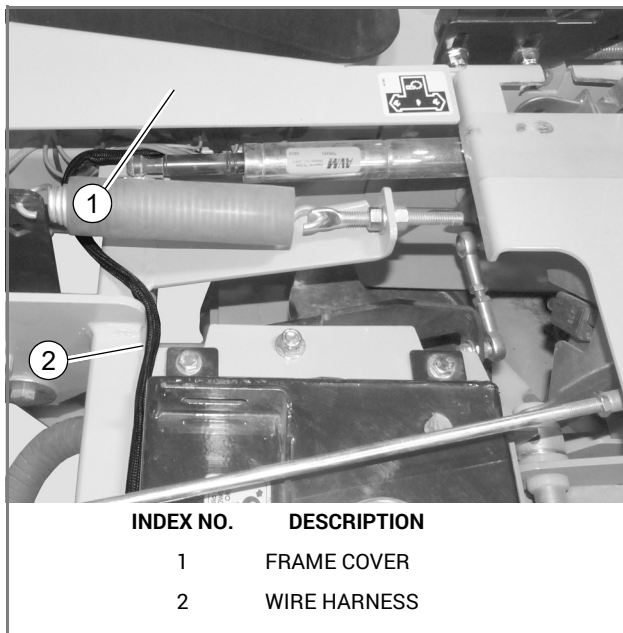

FIG. 18
36. Use wire ties as needed to tie all of the harness wires under the frame cover together as shown. FIG. 18